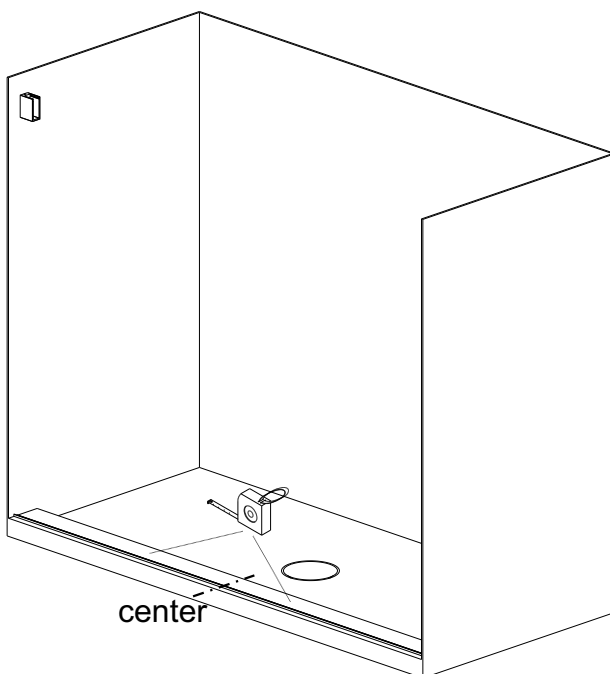

Fig9
2. Measure across the width of the threshold to locate and mark the center (Fig 9).